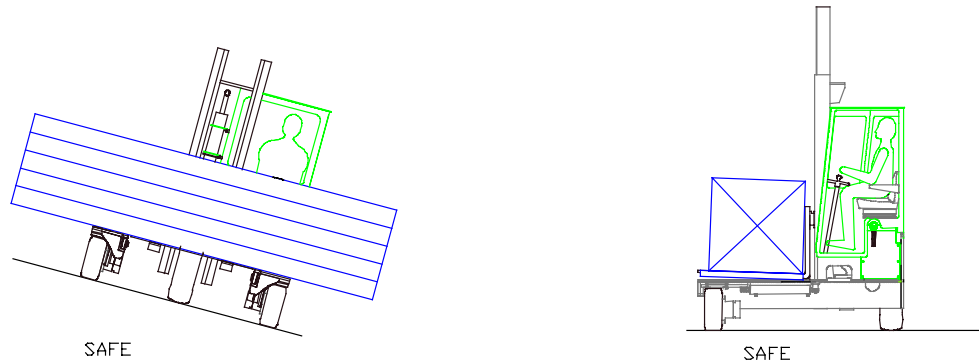

FIG 2 CORRECT PROCEDURE
- Always travel with forks as low as possible. If loaded, rest the load on platforms where possible. (See fig.2)
- Ensure load is tight against face of forks. (See fig 2)